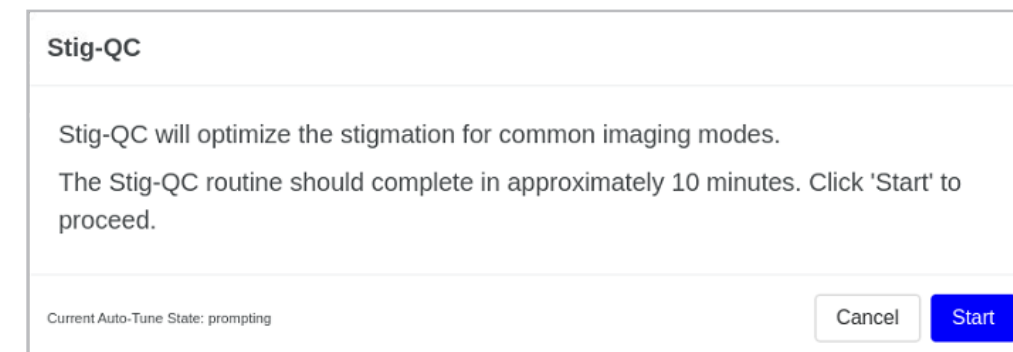

FIGURE 3.5 Stig QC confirmation dialog box.
3. On the dialog that appears, click **Start** (Figure 3.5).